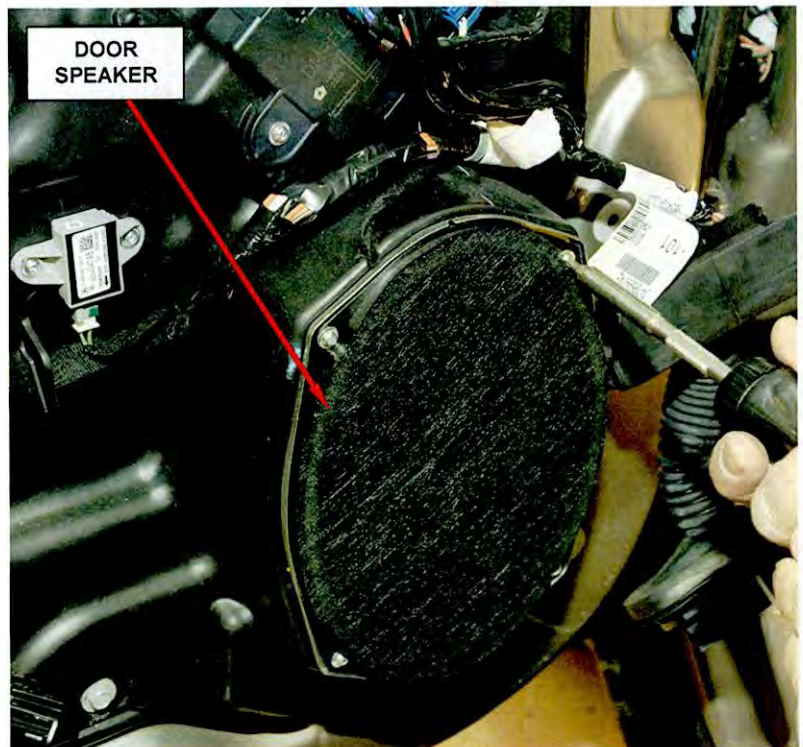

Figure 4 – Door Speaker
19. Connect the door speaker electrical connector and install the door speaker (Figure 4).